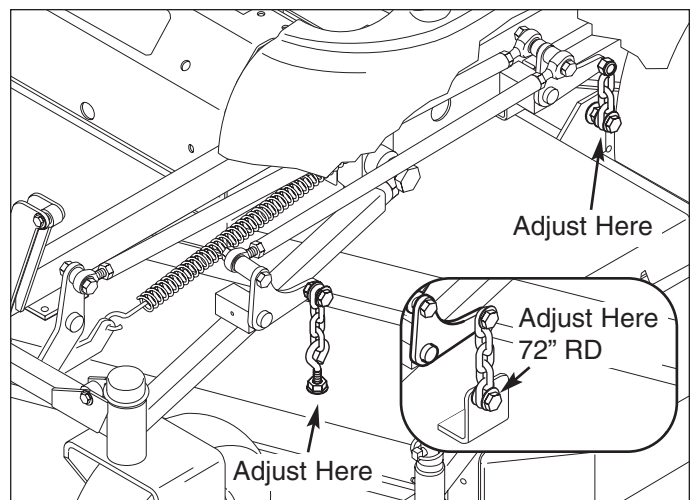

Figure 43. Deck Level & Spring Length Adjustment
4. Adjust the front eyebolts until the chains are tight and the deck is still resting on the 2 x 4's. Tighten jam nuts. For 72" RD Mower Deck: Loosen the nuts and allow the front of the deck to rest on the 2 x 4's. Slide the chains in the slots until the chains are tight and tighten the nuts. See Figure 43.
5. Loosen the nuts and allow the rear of the deck to rest on the 2 x 4's and 1/4" spacers. Slide the chains in the slots until the chains are tight and tighten the nuts. See Figure 43.